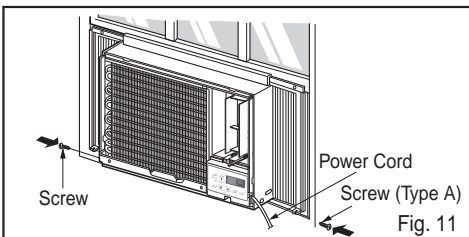

Fig. 11
5. Slide the unit into the cabinet.(See Fig. 11)